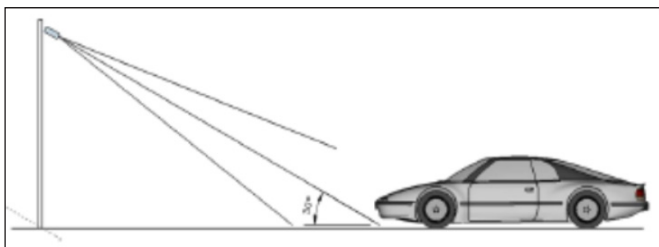

Fig. 1.1
- The view angle of the camera should be within 30 degrees to the ground (fig1.1)